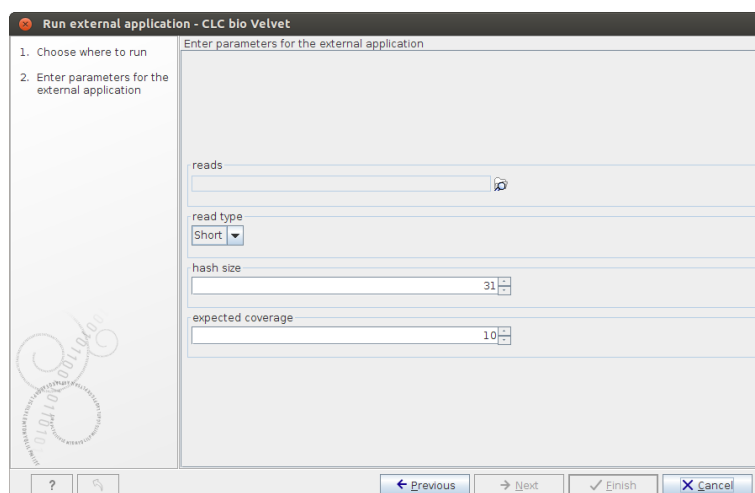

Figure 15.26: Configuring Velvet parameters from a Workbench.
- Select (📁) the reads to assemble and configure the Velvet parameters, as shown in figure 15.26.